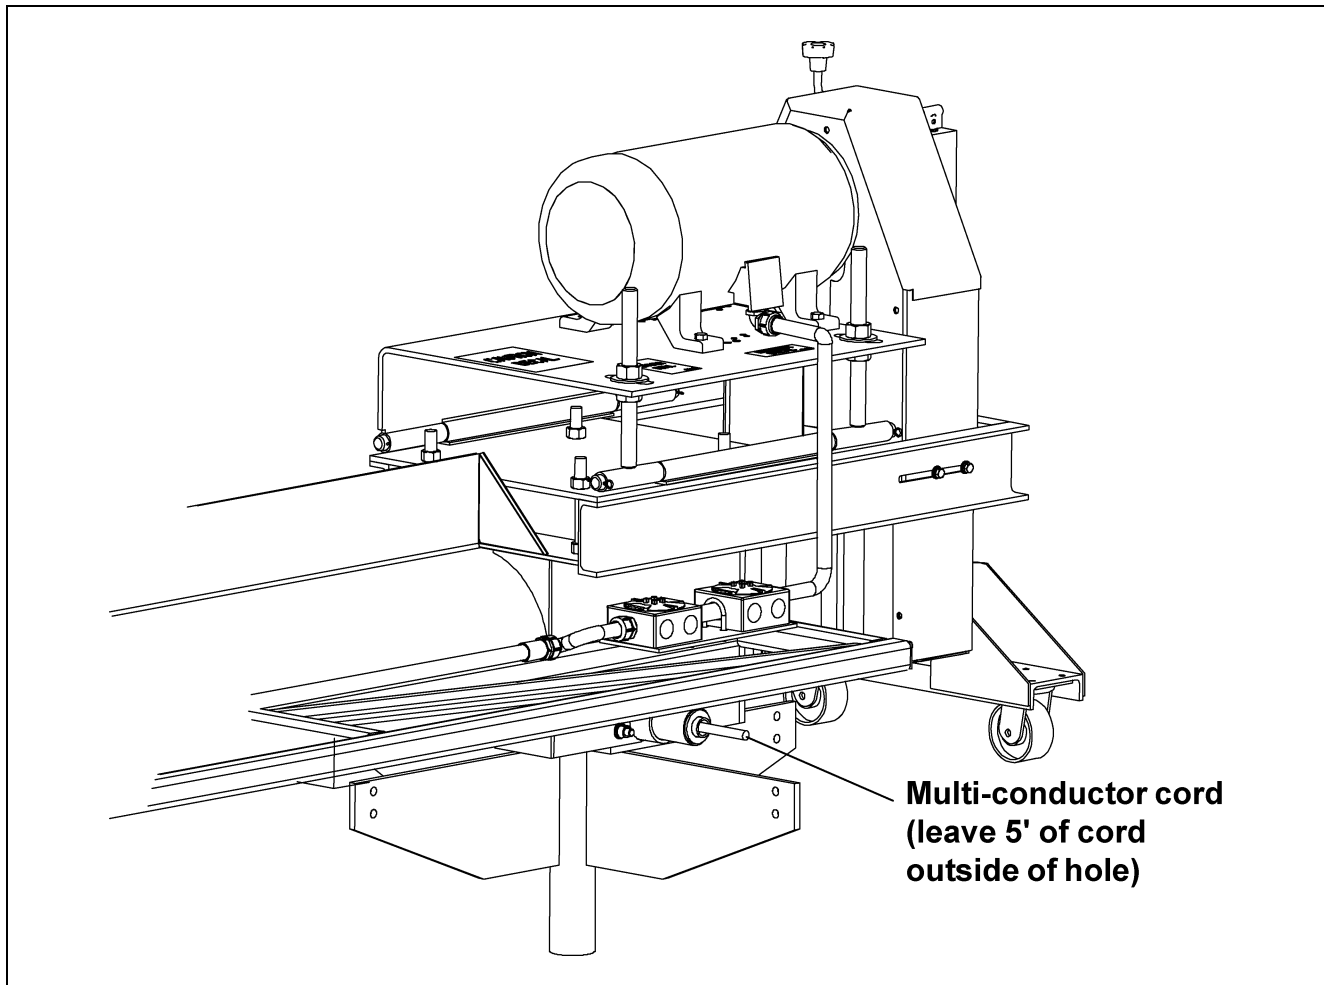

Figure 5AJ
2. Feed the multi-conductor cord through the hole in the back of the sweep head section leaving five feet (5') of cord outside the hole. (See Figure 5AJ.)
3. Feed the power cord through the pivot tube. (See Figure 5AK.)
4. Align the hole in the backshield with the pivot tube and push the sweep onto the pivot tube. (See Figure 5AK.)